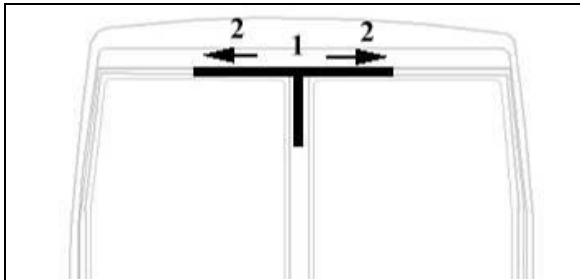

FIGURE 59
5. Spread the sealant on the fiber surface as shown (Figure 59).